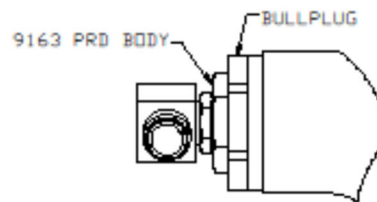

FIGURE 4
6. Screw elbow to face of 9163 body. SEE FIGURE 4